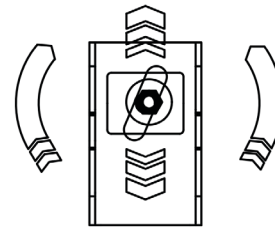

Figure 6: Adjusting
- E** Each FAST Thermal Bracket is installed so that the shelf angle rests firmly on the lower supporting legs of the Bracket. After adjusting and positioning the Brackets, the anchor bolts are seated by torquing in accordance with the manufacturer's recommendations. (Figure 6)